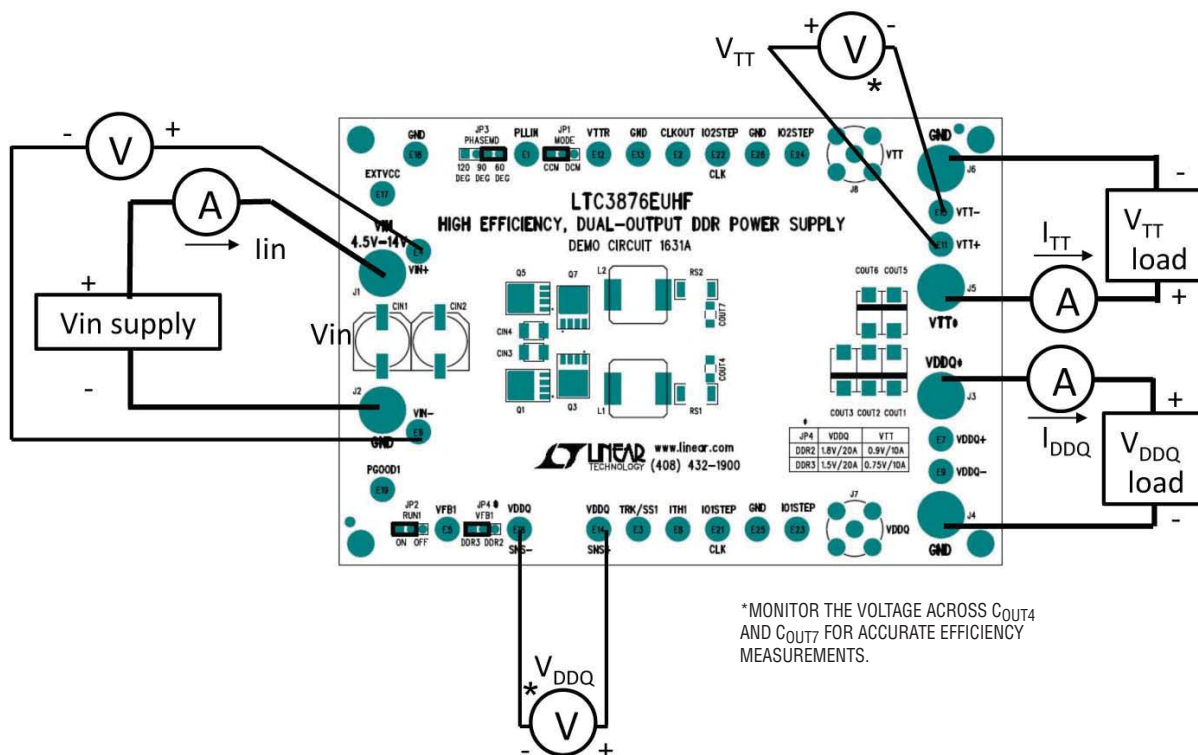

Figure 1. Proper Measurement Equipment Setup
Demonstration circuit 1631A is easy to set up to evaluate the performance of the LTC3876EUHF. Please refer to Figure 1 for proper measurement equipment setup and follow the procedure below.
- 1) With power off, connect the input supply, load and meters as shown in Figure 1. Preset the load to 0A and V_{IN} supply to be 0V. Place jumpers in the following positions: